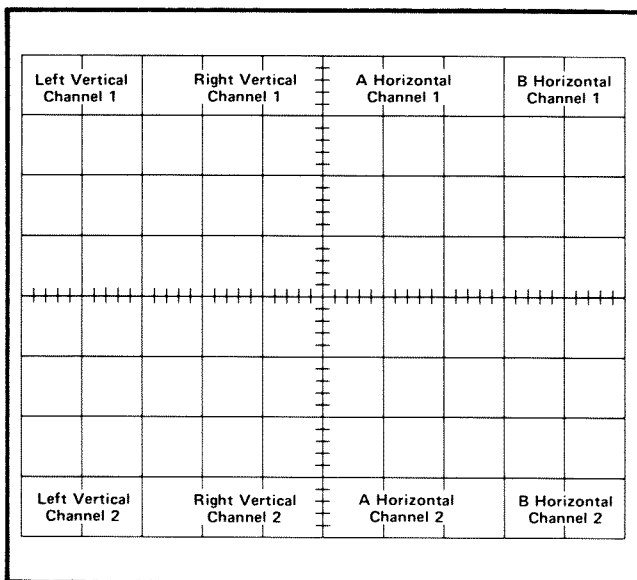
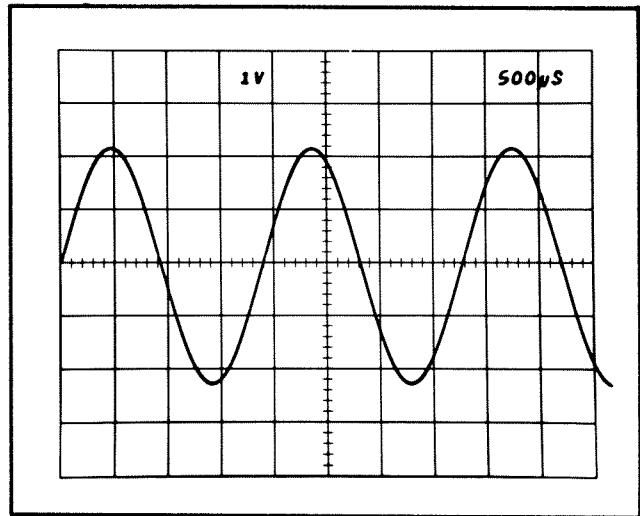

Fig. 3-36. Location of readout words on the CRT identifying the originating plug-in and channel (one complete frame shown).
Fig. 3-38. Typical readout display where only channel 1 of the Right Vertical and B Horizontal units are displayed.
Frame—A frame is a display of all words for a given operating mode and plug-in combination. Up to eight words can be displayed in one frame. Fig. 3-36 shows one complete frame and the position at which each of the eight words is displayed.
Display Format. Up to eight words of readout information can be displayed on the Type 7504 CRT. The position of each word is fixed and is directly related to the plug-in unit from which it originated. Fig. 3-36 shows the area of the graticule where the readout from each plug-in unit is displayed. Notice that channel 1 of each plug-in unit is displayed within the top division of the CRT and channel 2 is displayed directly below within the bottom division. Fig. 3-38 shows a typical display where only channel 1 of the Right Vertical unit and the B Horizontal unit are selected for display.
The Format Generator stage provides the output signals to the vertical and horizontal deflection systems of the instrument to produce the character display. The binary channel address code from the Channel Counter stage is connected to this stage so that the display from each channel is positioned to the area of the CRT which is associated with the plug-in and channel originating the word (see Fig. 3-36). The positioning current or decimal point location current generated by the Decimal Point Logic and Character Position Counter stage is added to the horizontal (X) signal at the input to the Format Generator stage to provide horizontal positioning of the characters within each word. The X- and Y-output signals are connected to the Horizontal Amplifier and Vertical Amplifier through the Horizontal Output and Vertical Output stages respectively.